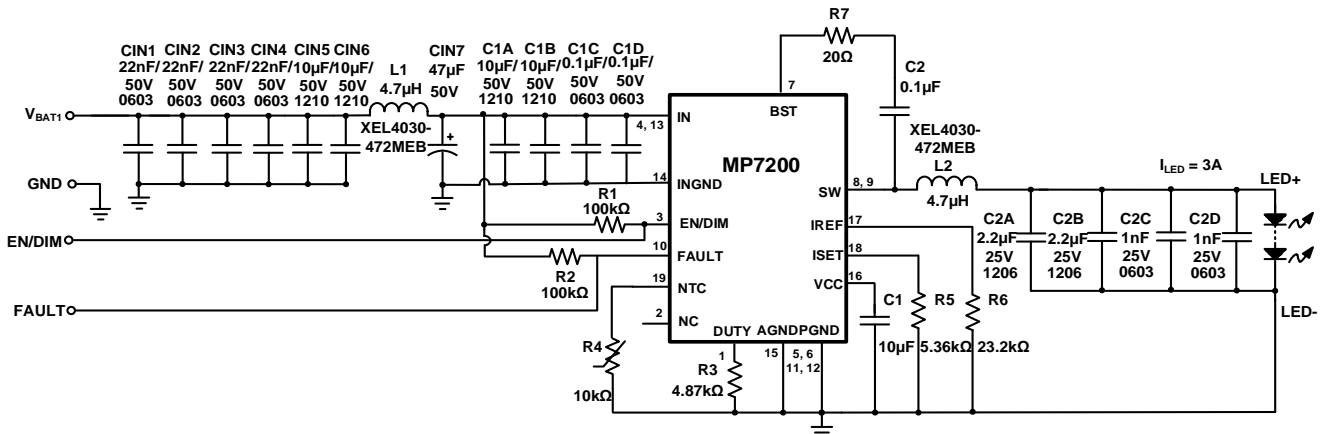

Figure 11:  $I_{LED} = 3A$  Buck Application Circuit with No Two-Step Dimming
- 13) The recommended layout is based on Figure 11.